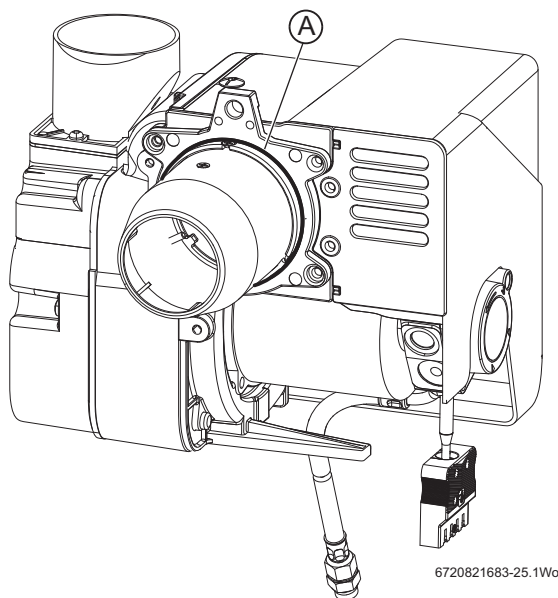

Fig. 90 18/25 and 25/32 Burner O-ring seal shown
- ▶ Always check that the O-ring seal (Fig. 90 item A) is in good condition before fitting the burner. Replace the O-ring seal if defective.